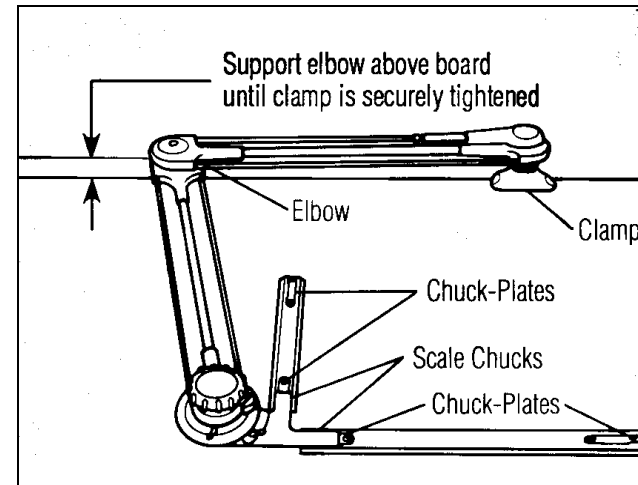

Figure 1
A. Attachment to the table (Figure 1)